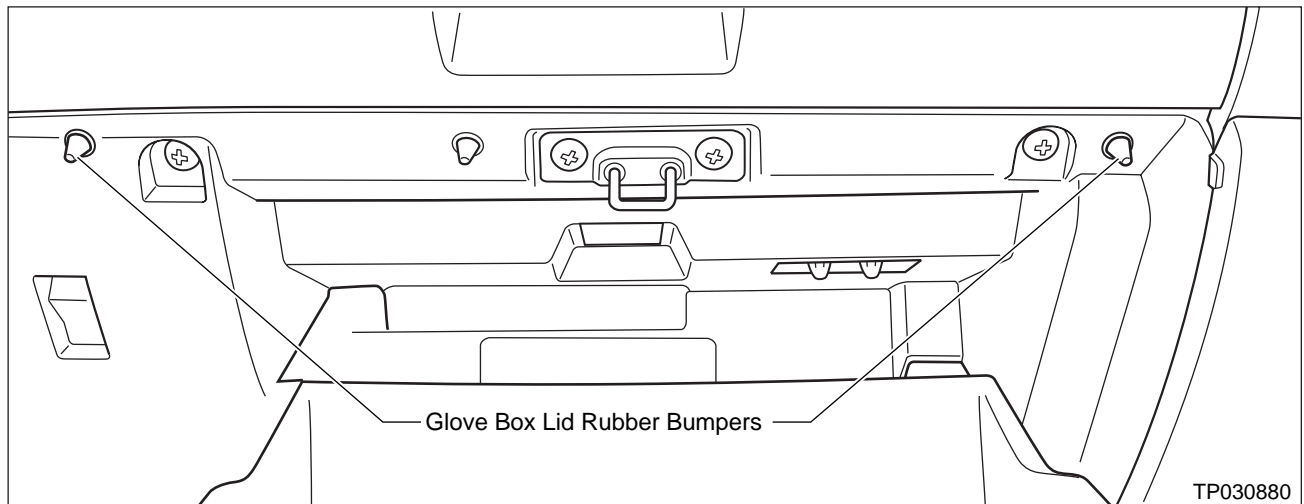

Figure 10
2. Open the glovebox lid and locate the glovebox lid "rubber bumpers" (see Figure 10).